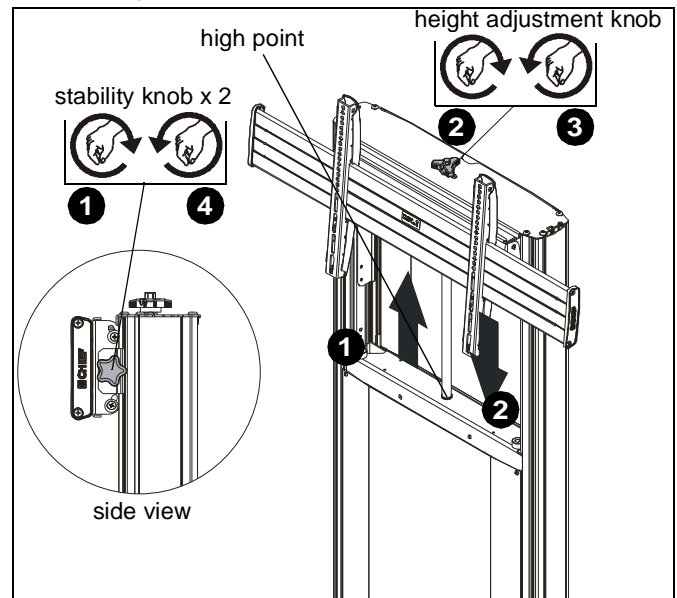

Figure 22
1. Loosen two stability knobs on either side of head assembly. (See Figure 22)
2. Turn height adjustment knob clockwise to raise display. (See Figure 22)
3. Turn height adjustment knob counterclockwise to lower display. (See Figure 22)
WARNING: Do not attempt to raise or lower the adjustment carriage beyond its upper or lower limit. High and low points are shown in Figures 22 and 23.
4. Tighten two stability knobs on either side of head assembly. (See Figure 22)